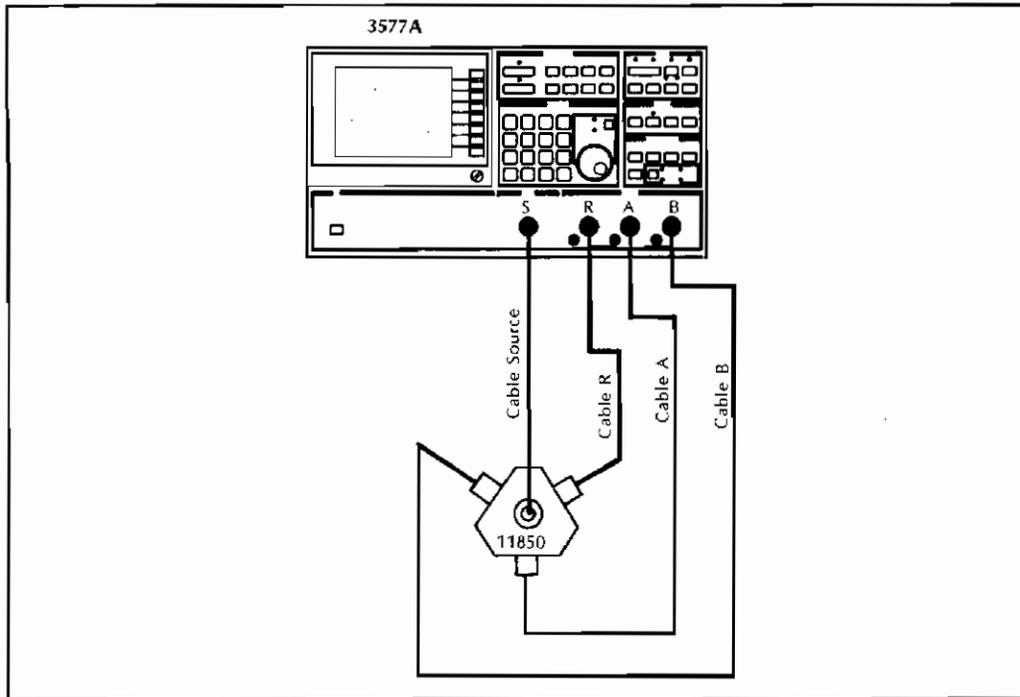

Figure 3-13 Ratio Test Set-Up (50 Ω)
- u. Connect the equipment as shown in Figure 3-13.